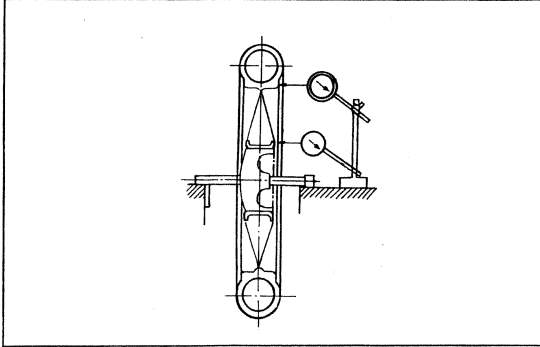

Fig. 102 Rim runout measurement
- 3) Check rim runout using a dial gauge. (Fig. 102)